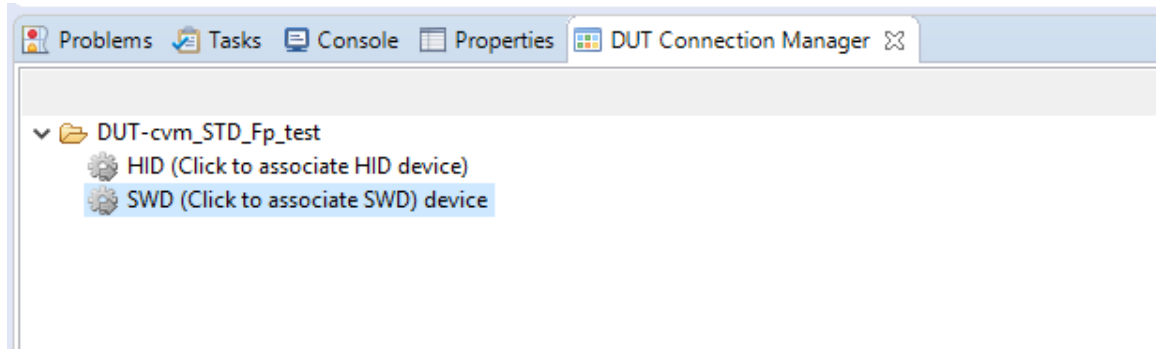

Figure 27: DUT Connection Manager View (for SWD)
7. Click on "DUT Connection Manager" and click on "SWD" to connect to J-Link Lite debugger (Figure 27).